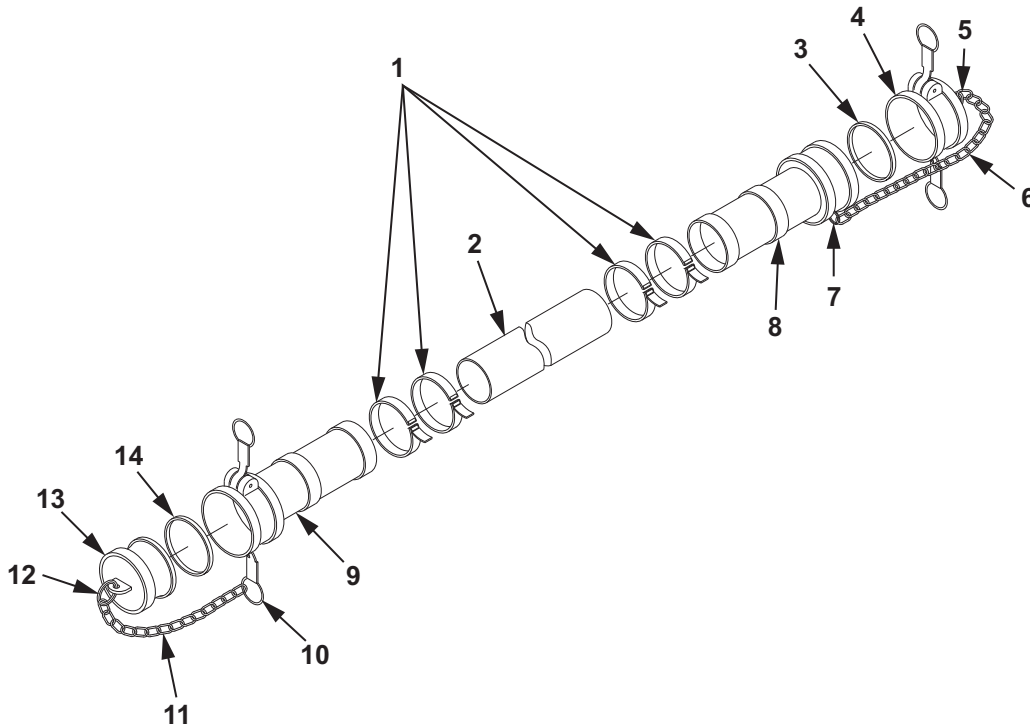
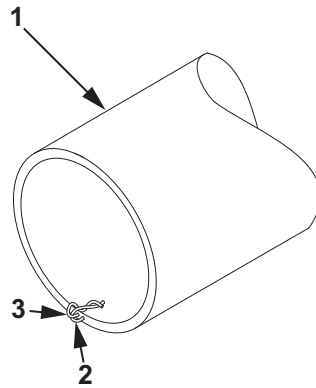

Figure 1. 4 In. X 10 Ft. Discharge Hose Disassembly.
Figure 2. 4 In. X 10 Ft. Discharge Hose Repair.
1. Cut and remove hose clamps (Figure 1, Item 1) from hose assembly (Figure 1, Item 2). Discard hose clamps (Figure 1, Item 1).
2. Remove female coupling half (Figure 1, Item 9) and male coupling half (Figure 1, Item 8) from hose assembly (Figure 1, Item 2).
3. Remove quick disconnect dust plug (Figure 1, Item 13) from female coupling half (Figure 1, Item 9).
4. Remove quick disconnect dust cap (Figure 1, Item 4) from male coupling half (Figure 1, Item 8).
5. Remove gaskets (Figure 1, Item 14, 3) from female coupling half (Figure 1, Item 9) and quick disconnect dust cap (Figure 1, Item 4).
6. Discard gaskets (Figure 1, Item 14, 3).
7. Remove split ring (Figure 1, Item 5) from quick disconnect dust cap (Figure 1, Item 4).
8. Remove split ring (Figure 1, Item 5) from chain (Figure 1, Item 6).
9. Remove split ring (Figure 1, Item 7) from male coupling half (Figure 1, Item 8).
10. Remove split ring (Figure 1, Item 7) from chain (Figure 1, Item 6).
11. Remove split ring (Figure 1, Item 10) from female coupling half (Figure 1, Item 9).
12. Remove split ring (Figure 1, Item 10) from chain (Figure 1, Item 11).
13. Remove split ring (Figure 1, Item 12) from quick disconnect dust plug (Figure 1, Item 13).
14. Remove split ring (Figure 1, Item 12) from chain (Figure 1, Item 11).
1. Obtain the correct length of replacement hose (Figure 2, Item 1).
2. Identify the ground wire (Figure 2, Item 2) in each end of the hose (Figure 1, Item 1).
3. Using needle nose pliers, pull the ground wire (Figure 2, Item 2) approximately 1/2 in. out of the hose (Figure 2, Item 1) so the ground wire (Figure 2, Item 2) is loose.
4. Using needle nose pliers, cut a piece of copper wire (Figure 2, Item 3) approximately 1 1/2 inches long.
5. Insert the piece of copper wire (Figure 2, Item 3) into the hose (Figure 2, Item 1) approximately 1/2 in. away from the ground wire (Figure 2, Item 2).
6. Using needle nose pliers, wrap the copper wire (Figure 2, Item 3) and ground wire (Figure 2, Item 2) together, forming a pigtail.
7. Using needle nose pliers, carefully bend the ground wire (Figure 2, Item 2) inside the hose (Figure 2, Item 1).